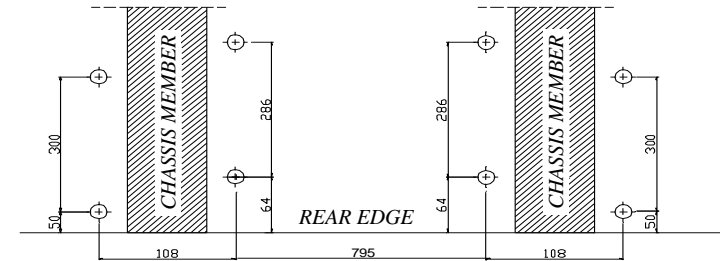

Fig. 1. Underneath view after bumper disassembly.
2. Underneath the car mark points according to figure 1. Next drill holes using bit $\varnothing 11\text{mm}$, make very carefully.
3. Inside the trunk put suitable upper fish-plates (pos.8).
4. Underneath the car put side brackets (pos. 4 and 5) and through holes (pos. A) and fish-plates (pos. 8) fix using bolts M10x35mm (pos. 11).
5. Underneath the car put fish-plates (pos. 6 and 7), next through holes (pos. B) and fish-plates (pos. 8) fix using bolts M10x35mm (pos. 11) .
6. Through holes (pos. C) fix main bar of the towbar (pos. 1) with side brackets using bolts M12x35mm (pos. 10).
9. Fix tow-ball (pos. 2) and socket plate (pos. 3) by bolts M12x75mm (pos. 7) from accessories.